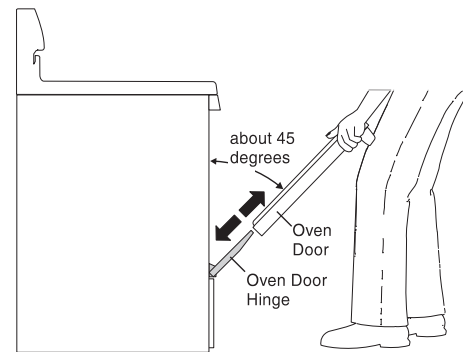

Fig. 3
- **To avoid possible injury** when removing or replacing the oven door, follow the instructions below **carefully** and always hold the oven door with both hands positioned **away from the door hinge area** (See Fig. 3).
5. Grasp oven door firmly on both sides and slide door up and off hinges at the same angle (See Fig. 3).
2. Hold door at the sides near the top while resting the lower front of door on your knee. Insert the door channels at the bottom of door over the door hinges, (See Fig. 3).